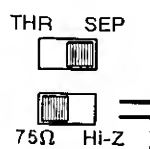

Fig. 3
When the two (2) different video signals are supplied to the Input A Connector (5) and the Input B Connector (10), set this switch to SEP position (Fig. 3). This will provide three (3) identical and isolated outputs to the Output A Connector (6) and the Output B Connector (7) for each input.